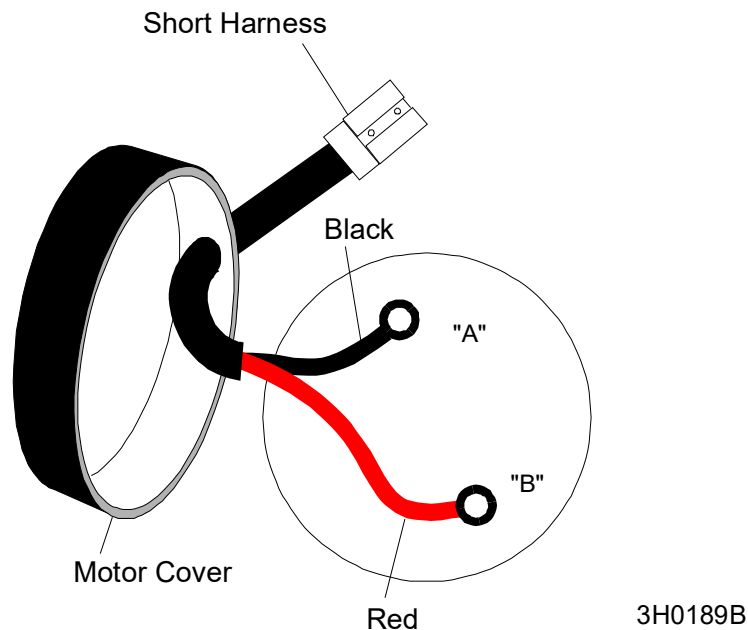

FIG. 1-7
See Figure 1-7.
2. Install the short male harness to the power feed motor. **See Figure 1-7.** Route the harness cable through the motor cover grommet. **NOTE:** A lubricant may be necessary to fit the harness through the grommet.